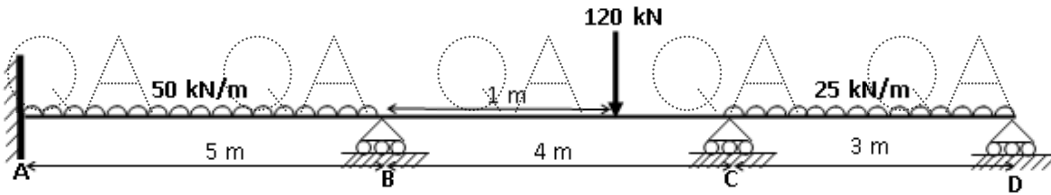

Figure. 7
8. Analyse the continuous beam supported and loaded as shown in Figure.7, if the support B sinks by 10 mm. Use slope-deflection method. Adopt $E = 200 \text{ GPa}$ and $I = 90 \times 10^6 \text{ mm}^4$. [10]